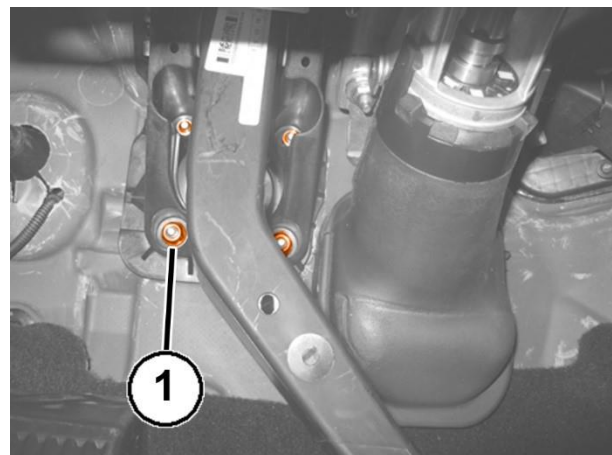

Figure 103 – ABS Module Nuts
47. Remove the nuts (1) attaching the ABS module to the pedal unit mounting (Figure 103).